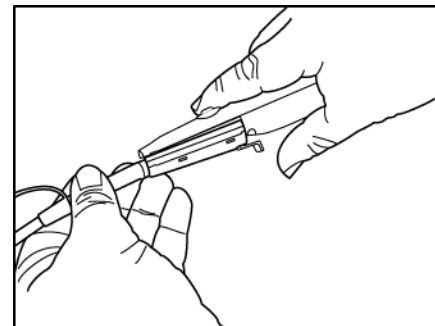

Fig. 9 Press the probe connector over the handle
- 7 Gently press the probe connector over the handle; press the tab on the umbilical connector to assist with engagement (Figure 9). An audible click will indicate the probe is properly connected.